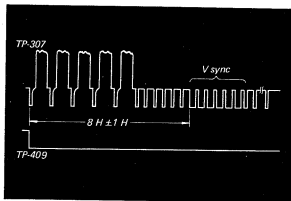

Fig. 7-4.
3. Adjust R411 on the SV4 Board so that the interval between the leading edge of vertical sync and leading edge of the 25 PG pulse is  $8 \text{ H} \pm 1 \text{ H}$  as shown in Fig. 7-4.